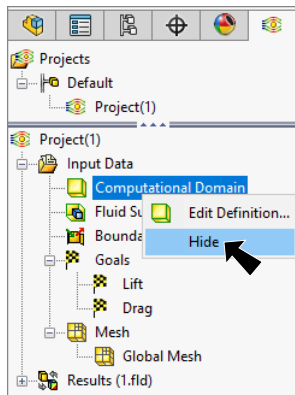

Fig. 18
Step 1. **Right click Computational Domain** in Flow Simulation tree and click **Hide**, **Fig. 18**.